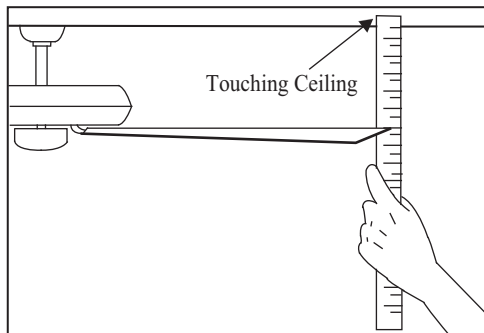

Figure 11
2. Most fan wobble problems are caused when blade levels are unequal. Check this level by selecting a point on the ceiling above the tip of one of the blades. Measure from a point on the center of each blade to the point on the ceiling. Measure this distance as shown in Figure 11. Rotate the fan until the next blade is positioned for measurement. Repeat for each blade. Measurements deviation should be within 1/8". Run the fan for 10 Minutes.